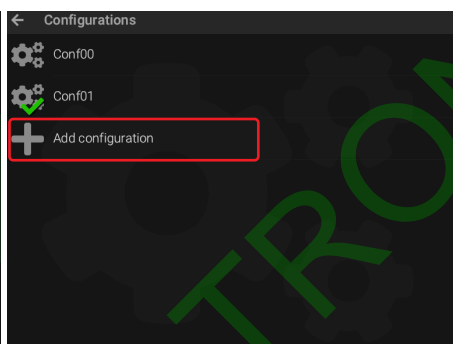

Fig. 24
- Press **Add configuration** (Fig. 24) and edit the new configuration name (par. 6.1).